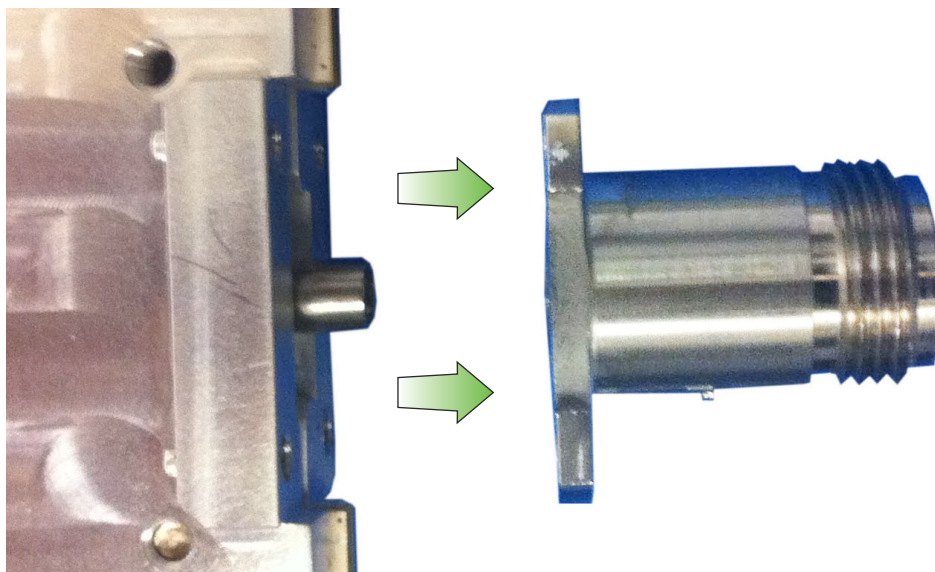

Figure 7-7. Remove N Connector from SPA or MB/VNA
6. Disconnect the N connector from the SPA or MB/VNA by gently pulling the N connector away from the SPA or MB/VNA (Figure 7-7).